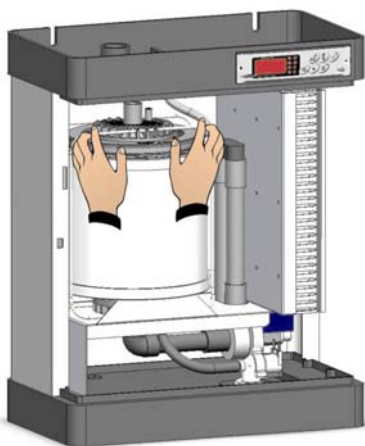

Fig. 27
2. Unhook the frontal retainer spring from the upper steam flange and slide it off (Fig. 27, 28, and 29).